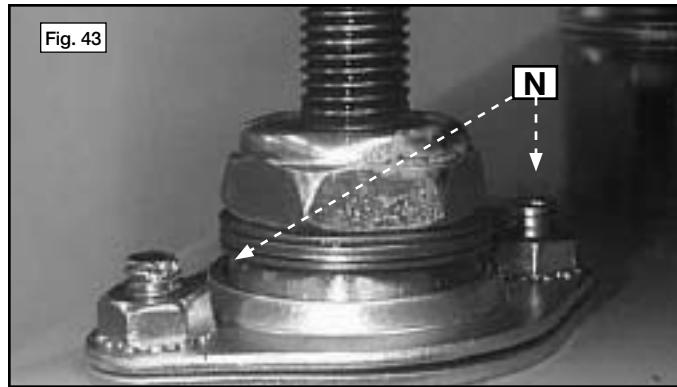

Fig. 43
3. With a 7/16" open-end wrench, loosen, but do not remove, the four nuts (N) Fig. 43 that secure the right side elevating bolts.